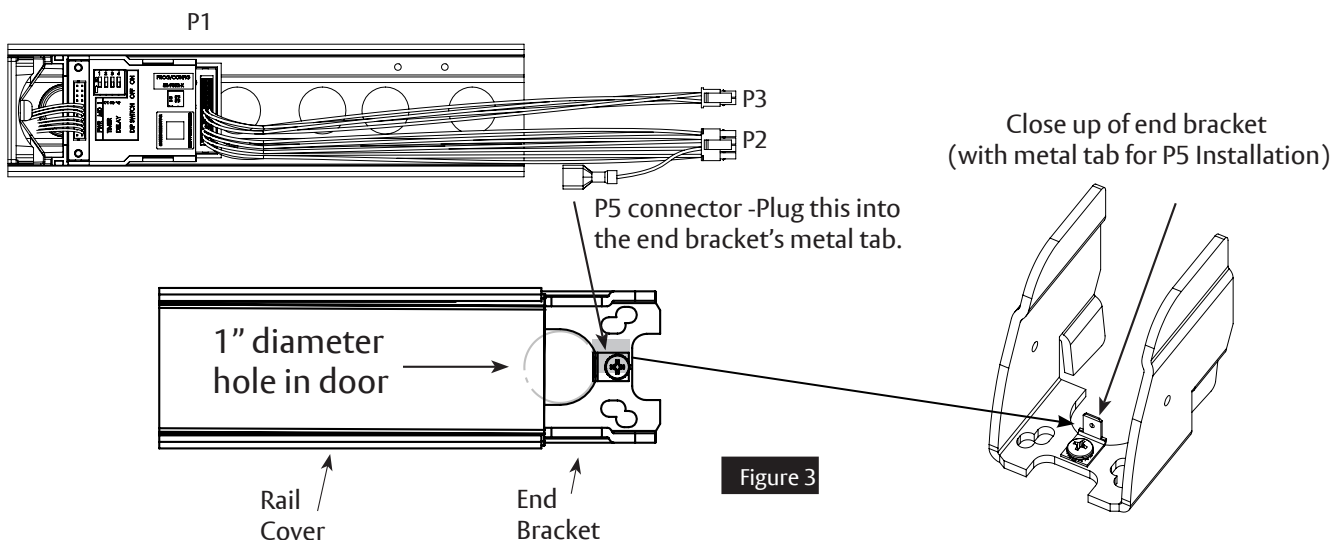

Figure 3
- c. Plug P5 connector into the end bracket metal tab and then tuck wires into rail, end bracket are, and into 1" diameter in door. Then install end bracket cover. (See Figure 3 on page 10)